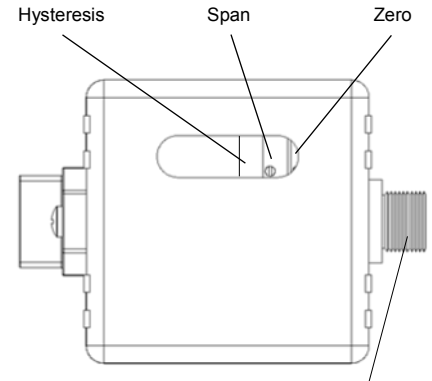

FIGURE 1 (QB2X, shown with 3D option)
4. Locate the plastic calibration access cap on top of the QBX valve and completely remove it. Located underneath are two adjustment trim pots, Zero "Z" and Span "S". See figure 1 for pots location.